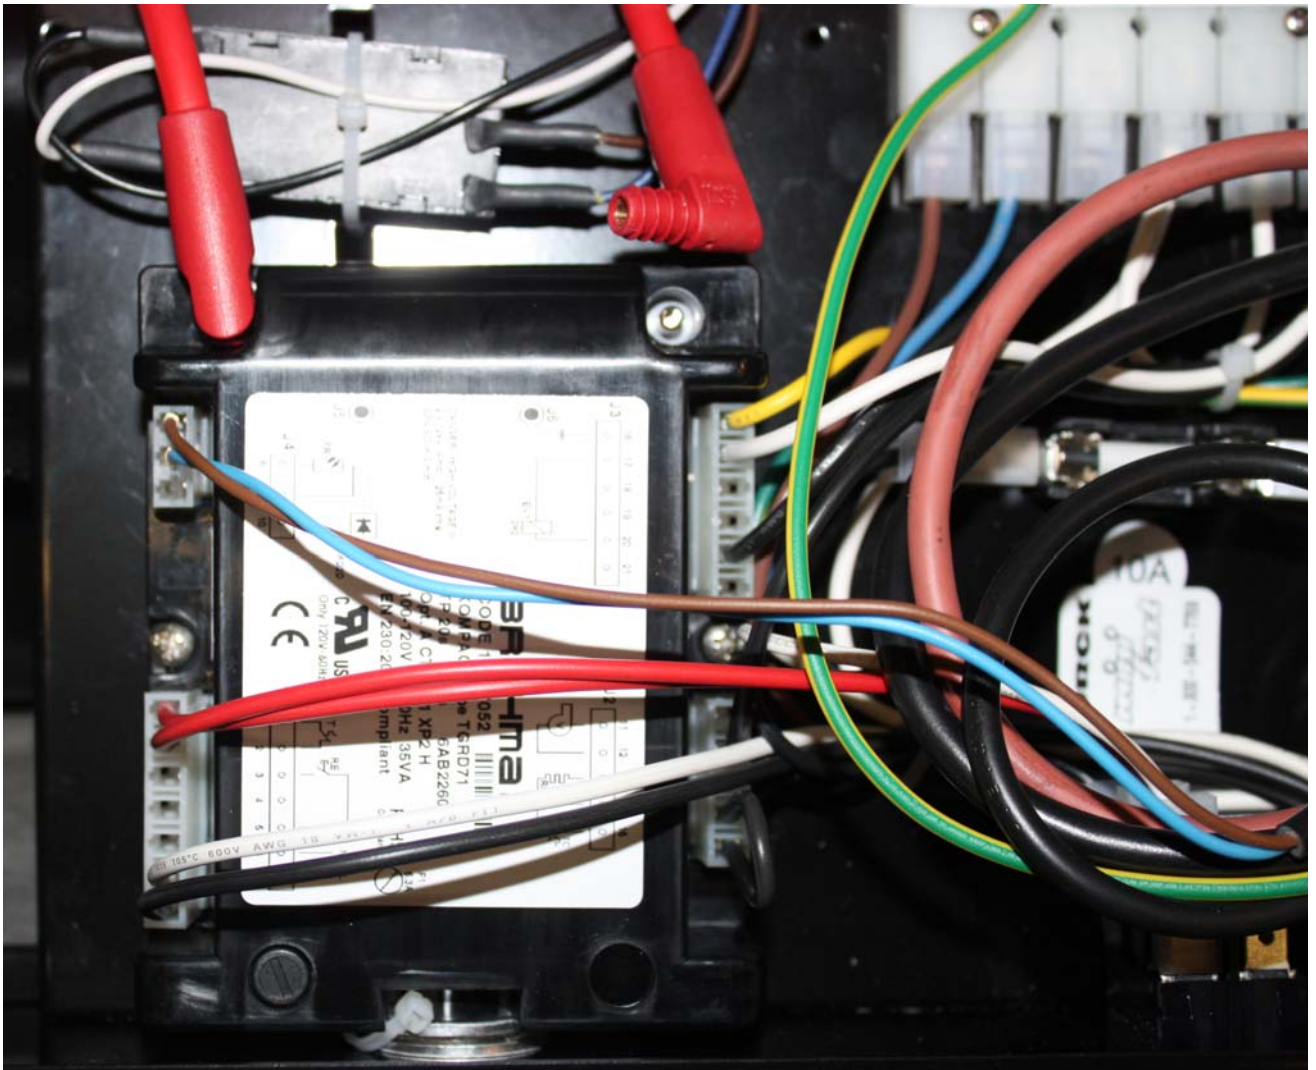

Figure 5-11 – Ignition Control Assembly and H. T. Ignition Cables
3. Using a 8mm nut driver, remove the upper heat shield (05) by removing six screws (79) and two sheet metal screws (78); remove heat shield and set aside.
4. Using a Phillip head screwdriver, remove two screws (81) securing control panel assembly (29). Pull assembly straight out and lay down exposing Ignition Control Assembly (53) and electrical wires.
5. Disconnect four quick disconnect wire connectors from ignition control assembly as shown in Figure 5-11.
6. Disconnect both H.T. ignition cables (64) from ignition control assembly (53).
7. Using a Phillips head screwdriver, remove two screws (88) securing from ignition control assembly (53) to control panel assembly (29).
8. Remove ignition control assembly (53).
1. Install new ignition control assembly (53) onto control panel assembly (29).
2. Using a Phillips head screwdriver, install and tighten two screws (88) securing ignition control assembly (53) to control panel assembly (29).
3. Reconnect two H.T. ignition cables (64) to the ignition control assembly as shown in Figure 5-11.
5. Slide control panel assembly (29) back into base (30). Ensure that electrical wires do not get pinched when sliding control panel assembly into base.
6. Using a Phillip head screwdriver, install and tighten two screws (81) securing control panel assembly (29) to base.
7. Install upper heat shield (05).
8. Using an 8mm nut driver, install and tighten six screws (79) and two sheet metal screws (78).
4. Using a Phillip head screwdriver, remove two screws (81) securing control panel assembly (29). Pull assembly straight out and lay down exposing internal components and electrical wires.
5. Disconnect both H.T. ignition cables (64) from ignition control assembly (53) (see Figure 5-11).
3. Connect both H.T. ignition cables (64) to ignition control assembly (53) (see Figure 5-11).
4. Slide control panel assembly (29) back into base (30). Ensure that electrical wires do not get pinched when sliding control panel assembly into base.
5. Using a Phillip head screwdriver, install and tighten two screws (81) securing control panel assembly (29) to base.
6. Install upper heat shield (05).
7. Using an 8mm nut driver, install and tighten six screws (79) and two sheet metal screws (78).
6. Disconnect quick disconnect wire connector (blue and brown wire connector) from ignition control assembly (53) (see Figure 5-11).
7. Gently pull photocell lead through lower heat shield (06) into base (30).
3. Connect quick disconnect wire connector (blue and brown wire connector) onto ignition control assembly (53) (see Figure 5-11).